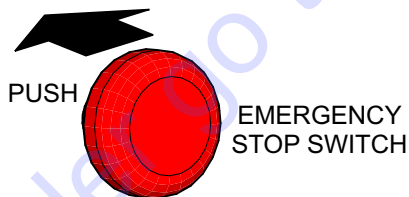

Figure 18. Emergency Stop Switch (Push)
2. Push the **EMERGENCY STOP** switch (Figure 18).